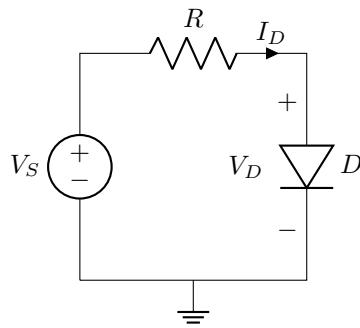

Figure 1: Forward-bias pn junction I-V characteristic measurement circuit.
Begin by constructing the circuit shown in Figure 1 on the breadboard using the small-signal silicon diode and the 1 kΩ resistor. Ensure that the diode is oriented correctly with the anode connected toward the positive supply terminal and the cathode toward ground. Set up the lab instruments to measure the diode voltage V_D and current I_D . To measure the voltage, connect the leads of the DMM (Digital Multimeter) across the diode terminals to measure the diode voltage directly. To measure the current, there are two options: connect a second DMM in series with the circuit (being careful to observe the current measurement limits of the meter) or measure the voltage across the resistor and calculate the current using Ohm's law ($I_D = V_R/R$). The second method is often preferred as it avoids potential issues with the meter burden voltage.
2. For the circuit in Figure 1, assume $V_S = 5 \text{ V}$, $R = 1 \text{ k}\Omega$, and the diode forward voltage is 0.7 V when conducting. Calculate (a) the voltage across the resistor, (b) the current through the diode, and (c) the power dissipated by the diode. Show all calculations.